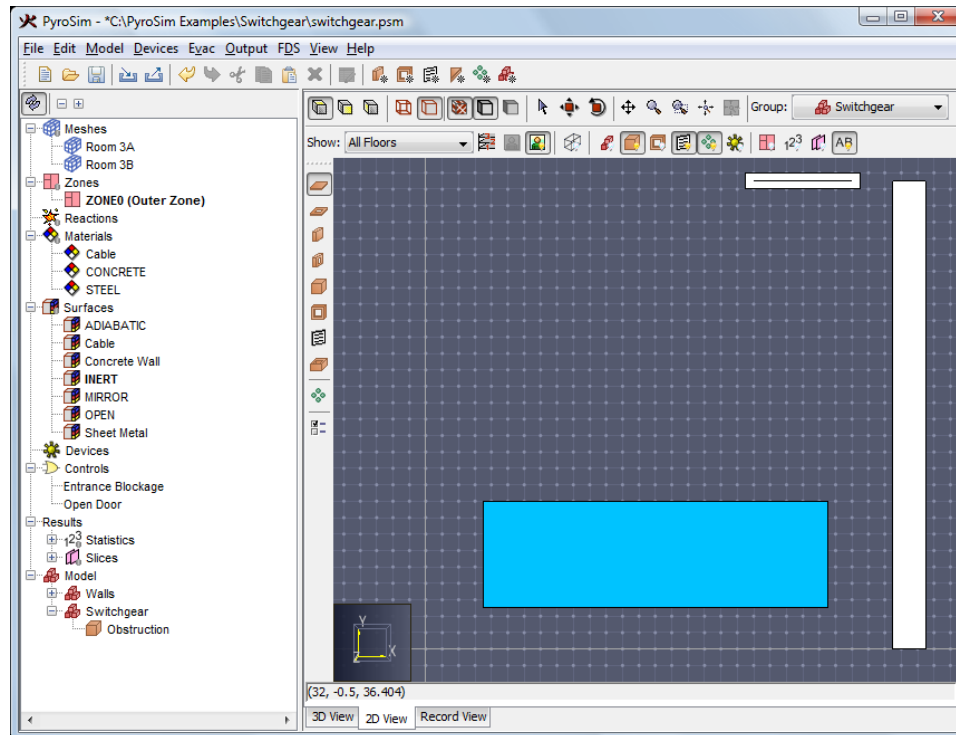

Figure 7.12. Sketch of the lower left cabinet
6. Your sketch will approximate that shown in Figure 7.12.